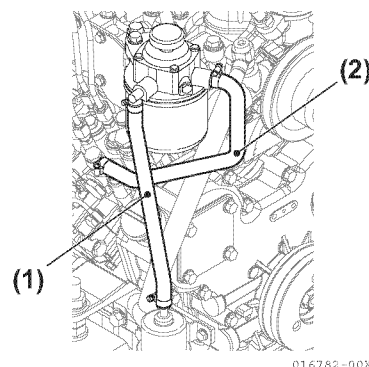

Figure 5-200
71. Install the fuel pipe (fuel feed pump-fuel filter, fuel filter-fuel injection pump) (Figure 5-200).